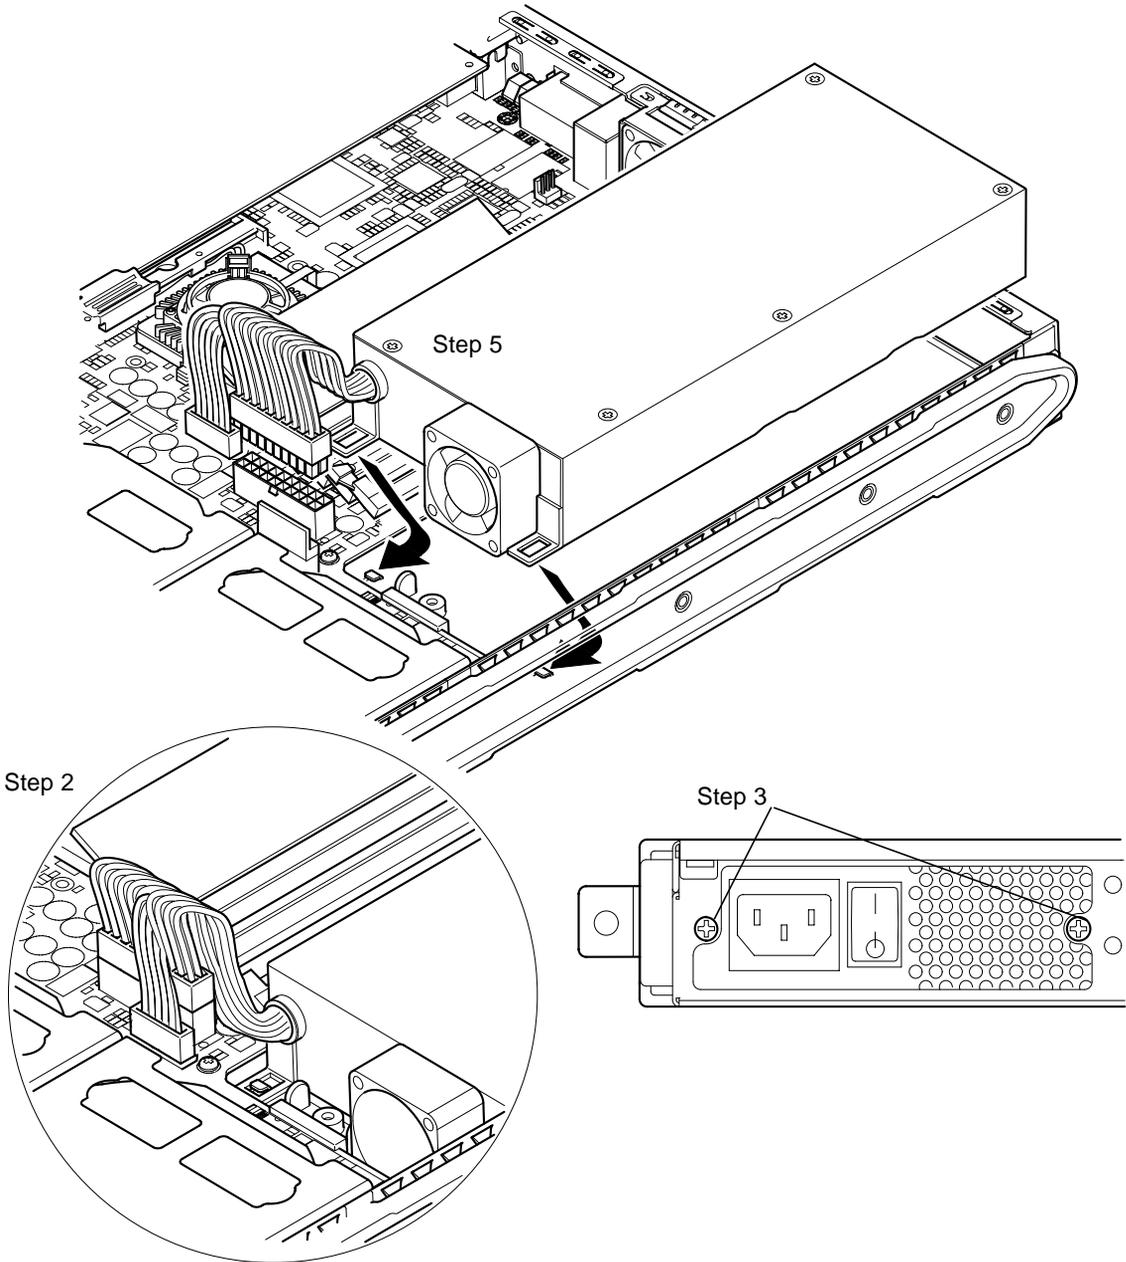

FIGURE 11-7 Replacing the Power Supply Unit
3. **Undo the two rear fixing screws (see FIGURE 11-7).**
5. **Lift the new PSU over the location tabs and slide it backwards into place (see FIGURE 11-7).**